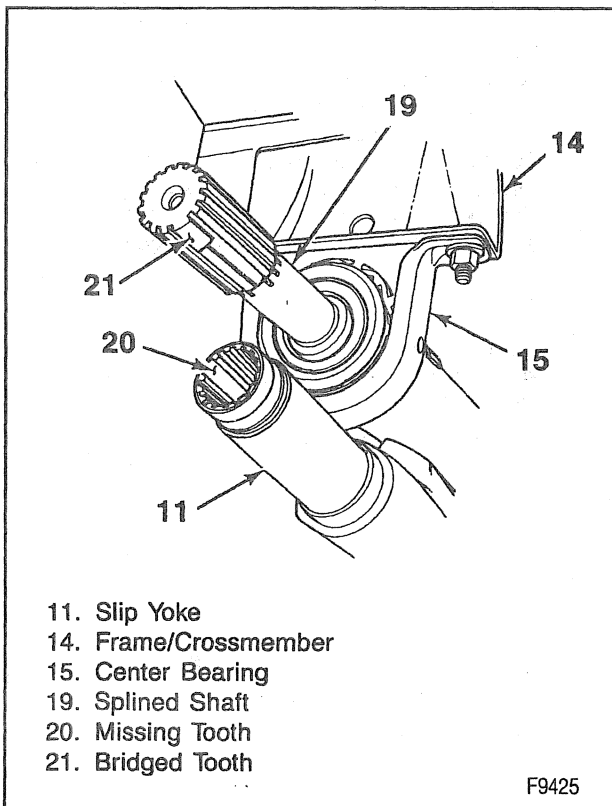

Figure 9—Splined Shaft Indexing (Saginaw)
- For two-piece Saginaw propeller shaft, unscrew threaded cap on center slip yoke. (figure 9).
- Locate the bridged tooth (B) on the splined shaft (figure 9).
- Mate the missing tooth in the yoke with the bridged tooth on the splined shaft (figure 9).